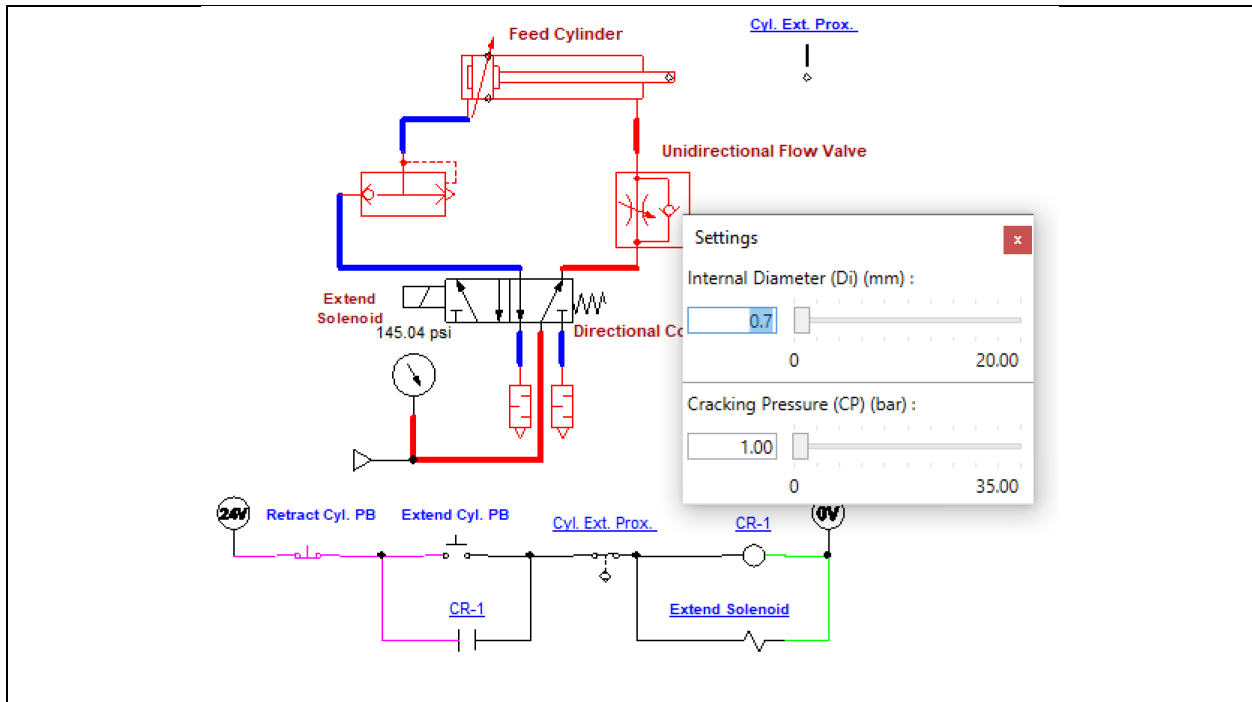

Figure 3. The flow control valve of Circuit 1.
5. An important aspect about the pneumatic circuit is that the flow control valve controls the speed of the cylinder rod while it is extending. The adjustment is the internal diameter of the valve, which the user can adjust by clicking on the valve during the simulation. Figure 3 shows that the internal diameter of the needle valve is 0.7 mm.